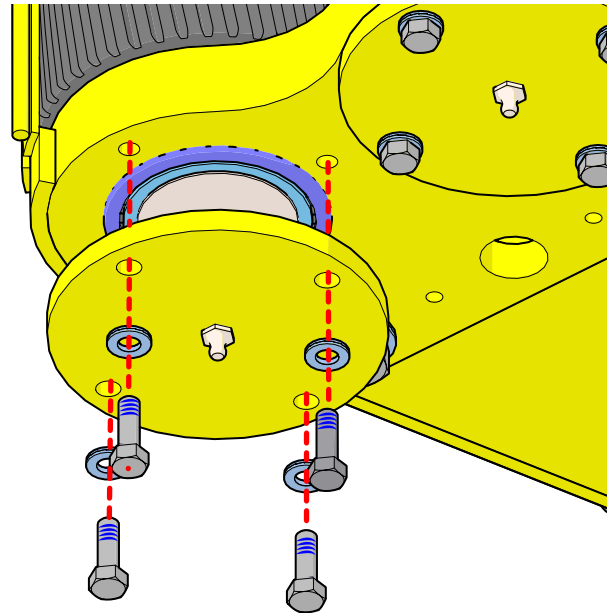

Figure 6: Remove bearing cap.
- f. Reinstall the bearing cap using fittings in the proper order. See Figure 6 on page 5.
- g. Add blue Loctite 242 to bolt threads for all four (4) 5/16" bolts.